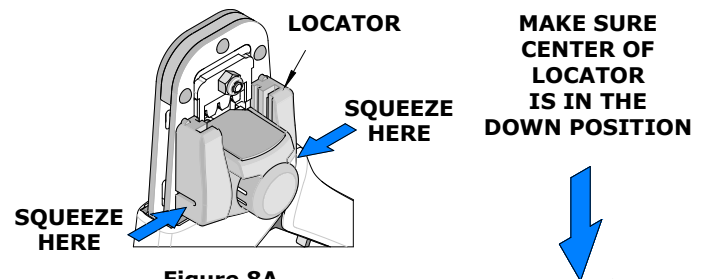

Figure 8A
2. Squeeze gently on the lower area shown in Figure 8A with your thumb and index finger. The lower tabs of the locator should disengage from the hand tool.
3. Lift and pull away from the hand tool. The top locator hooks should slip out of the top slots easily. See Figure 8A.